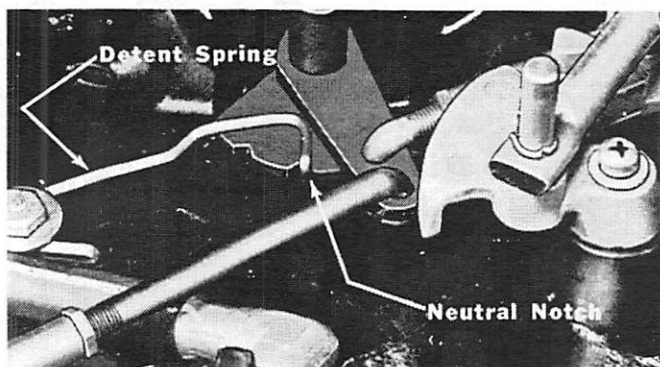

Figure 14. Detent Spring and Shift Control Lever Plate
2. Place control in neutral position (detent) and shift lever on engine in neutral position. When shift lever on engine is in neutral position, detent spring will be in center notch of shift control lever. (Figure 14)